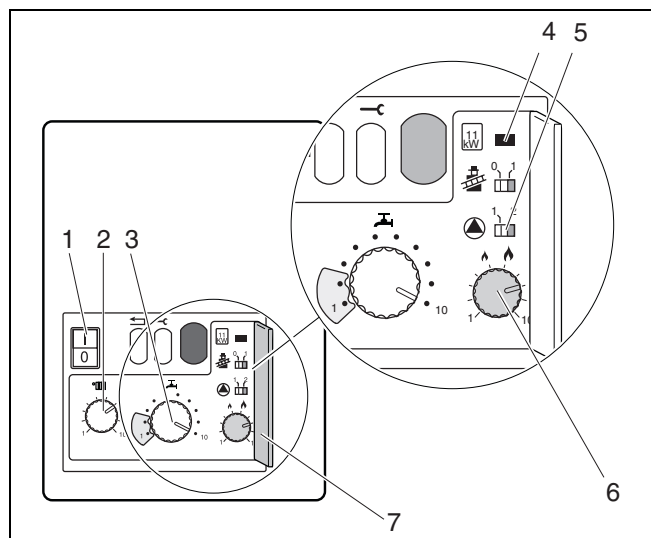

fig. 29 Controls
## Key to fig. 29
- Set the controller (fig. 29, item 2) to the desired maximum flow temperature in accordance with the system design and table 6.
- Use the controller (fig. 29, item 3) to set the desired domestic hot water temperature in accordance with table 7.
- Open the cover of second control level (fig. 29, item 7).
- Set the heating capacity in accordance with the required heat demand (table 8) on the controller (fig. 29, item 6). Take into account the appropriate losses caused by the flue gas system (table 9).
- Move the switch  (fig. 29, item 4) to position "1". Pump over-run time 4 minutes.